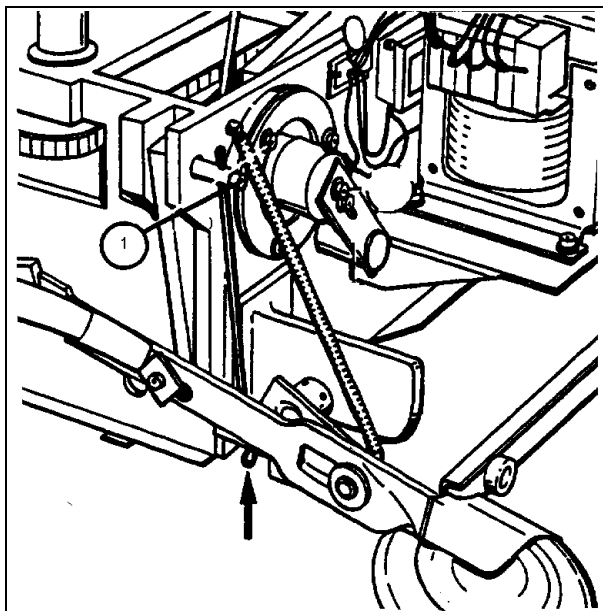

Fig. 7
- Unhook the lever (arrow / Fig. 7) from the locking member.
- Loosen the screw (Fig. 7/1).
- Move the lever approx. 3 centimeters upwards and tighten the screw (Fig. 7/1) again.